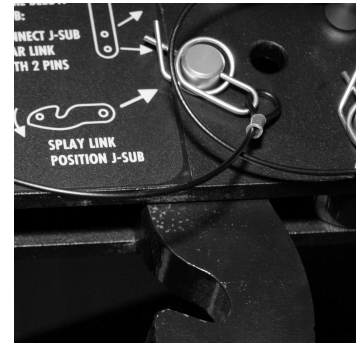

Fig. 14: Altering the Splay link position of the frame
1. First alter the position of the additional Locking pins [1.5] as shown in Fig. 14 - Step 1.